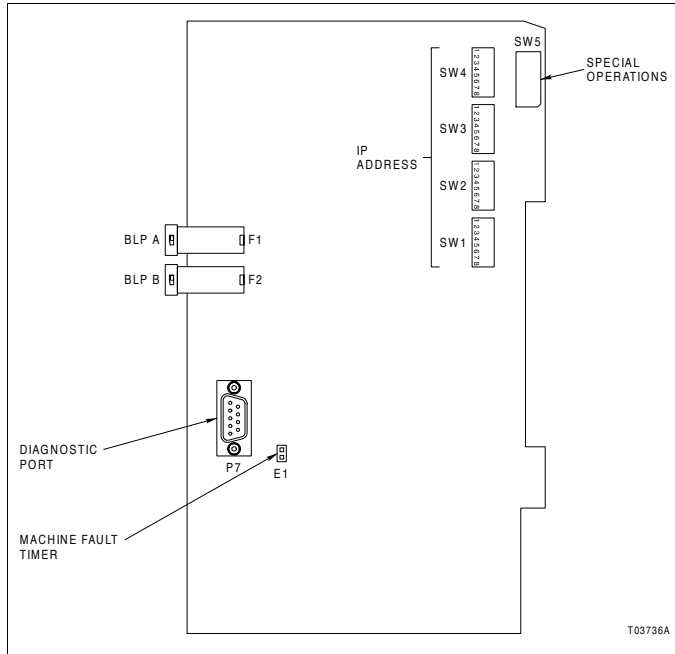

Figure PR5-3. SIM-100 Module Board Layout
- 4. Verify the machine fault timer (MFT) jumper E1 is inserted to enable the MFT timer (Fig. PR5-3). The machine fault timer jumper is for ABB use only. Always operate the SIM-100 module with the machine fault timer circuit enabled. Unpredictable module operation could occur if disabled.